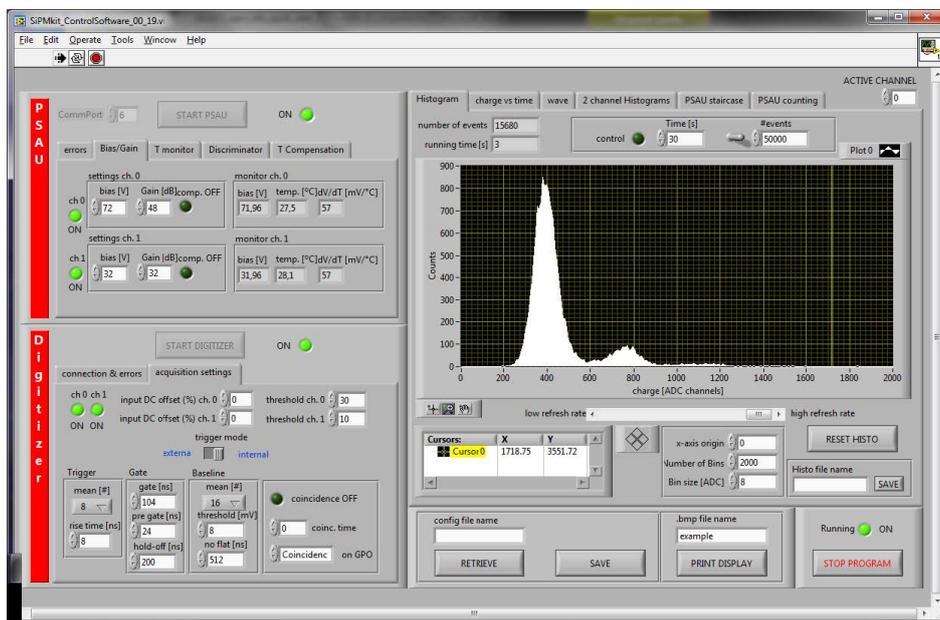

Figure 3: CAEN GUI main panel
The GUI main panel is structured as a “virtual instrument”: its appearance and operations imitate a real central system (Fig. 3). Three sub-panels may be identified:
6. Finally, ensure that the 'active channel' in the top right corner of the software display matches the channel that the SiPM is attached to on the PSAU. Consult Fig. 3 for location.